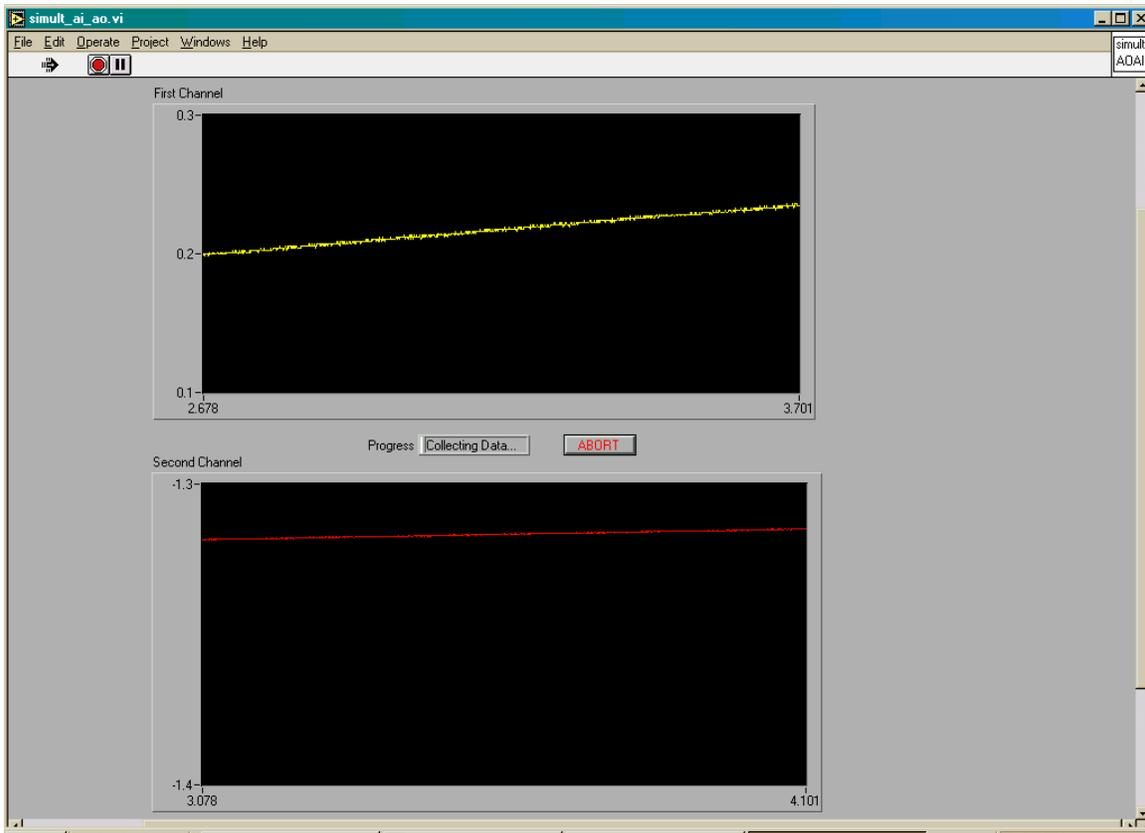
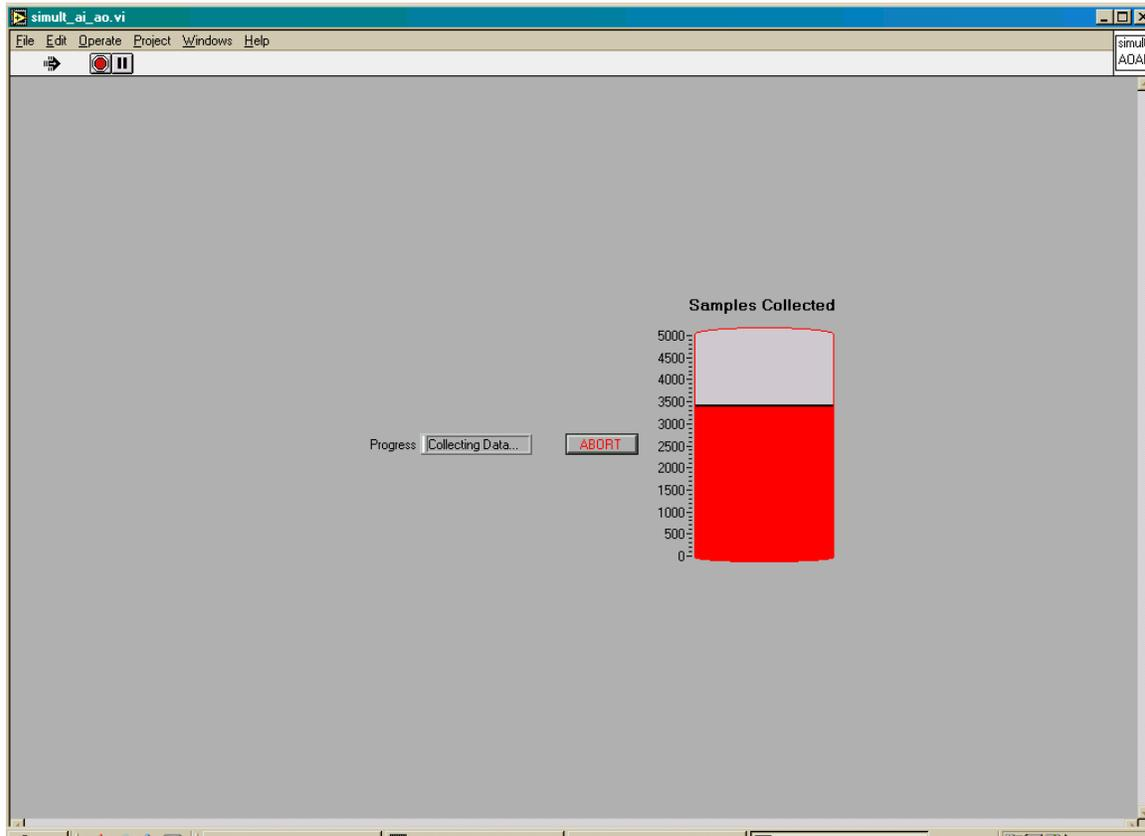

Figure 8. Data acquisition progress window - data shown
Figure 9. Data acquisition progress window - tank indicator
As soon as the 'done' button is pressed in the comment dialog box, the first protocol in a protocol sequence or the currently displayed protocol is executed depending on the mode of the program ('Run All' or 'Run One' respectively). The progress of an individual protocol can be observed in one of three ways. First, if the corresponding button in the monitoring control box on the main screen has been set to "yes", the data is displayed as it is collected, close to real time, as shown in Figure 8.
If real time monitoring is not enabled, the user will see a tank indicator filling up with data or merely an indication of the status of the acquisition for tests shorter than two seconds. The tank progress indicator is shown in Figure 9.
At the end of a protocol executed in 'Run One' mode, a dialog window is displayed to allow the user to enter the filename and location for the data file. The window is shown in Figure 8. After navigating to the desired directory, the user enters the filename with desired extension and presses 'OK'. Pressing 'Cancel' will discard the data and return the user to the front panel. The data can still be exported to ASCII using the 'Browse / Export data' button. The file dialog shown in Figure 8 is also shown when saving a protocol series, a calibration file or measurement setup file.
Figure 9 shows an example of 'Single Pulse' mode. The 'Stim Rate' is set to 10 Hz but the 'Single Pulse' box has been selected by left clicking over the box with the mouse. A single pulse is delivered upon the execution of the protocol. and the 'Done' button pushed in the 'Comment' window that pops up.
- e. At this point the program will display the data collection monitoring window with the actual data being collected (Figure 8) or a data acquisition progress indicator (Figure 9) being shown. Which display is shown depends on the user options entered in the front panel monitoring controls for the present protocol.